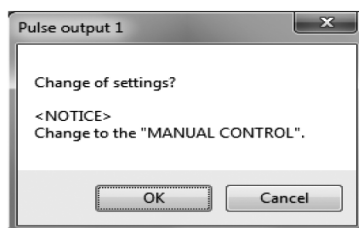
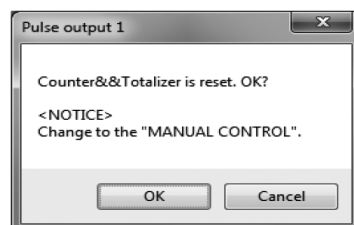

Fig.42
Fig.43
- ④ Click the "OK" button after all settings are completed to display the message box (Fig. 42).
Click "OK" here to change the settings to the inputted values, and to reflect the changed setting values in the flowmeter's output. For the sake of safety, if the flowmeter's output is used to control valves or other such parts, then change that control loop to manual control so that the control loop is not influenced by the flowmeter's output. When "OK" is clicked in Fig. 42, the cumulative total will be reset, and a confirmation message box will be displayed as shown in Fig. 43. To avoid resetting the cumulative total, click the "Cancel" button. If you do not mind resetting the total, click the "OK" button again.